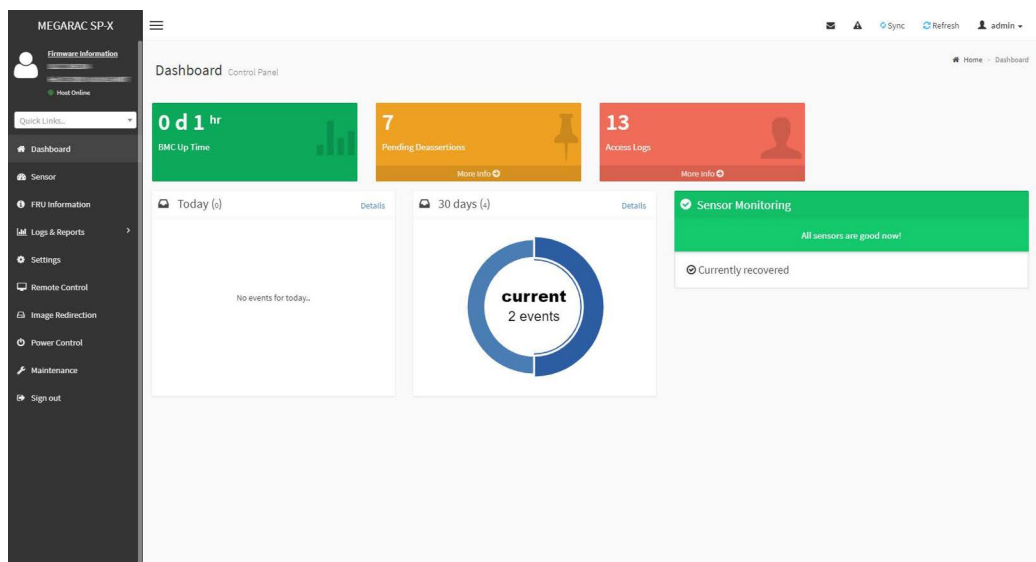

Figure 5.10 Dashboard menu
4. The BMC WebUI automatically displays the **Dashboard** tab as shown in Figure 5.10. Device, network, sensor monitoring, and event log information is presented.